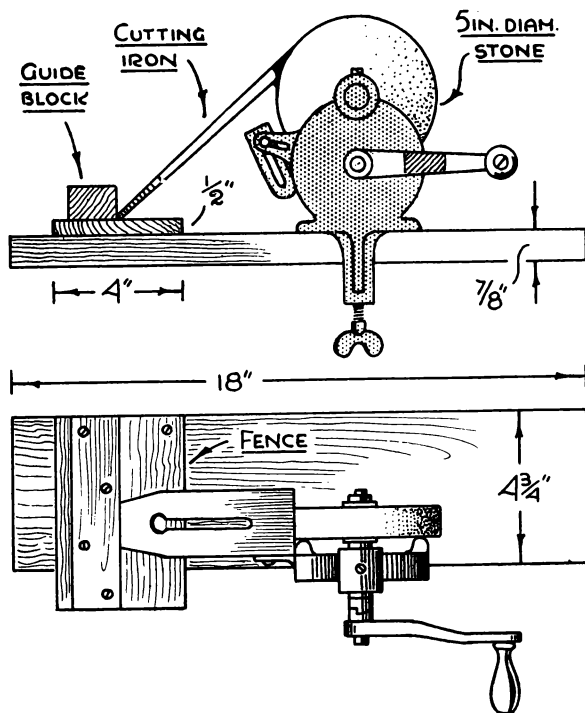
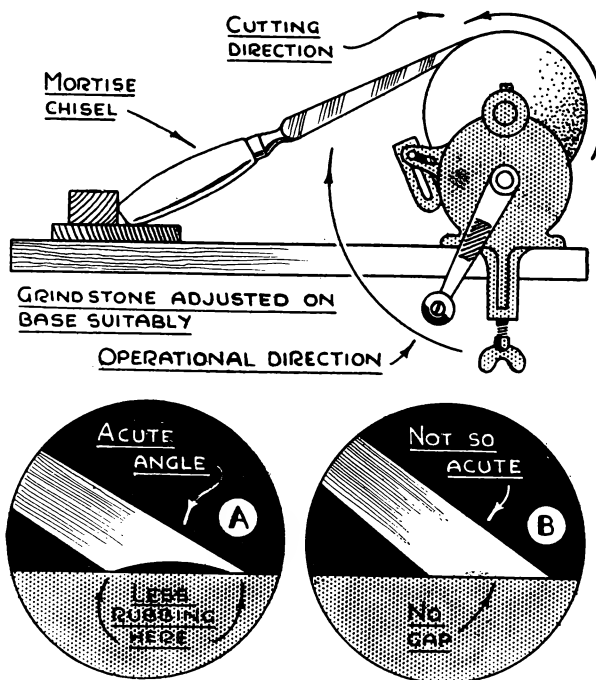
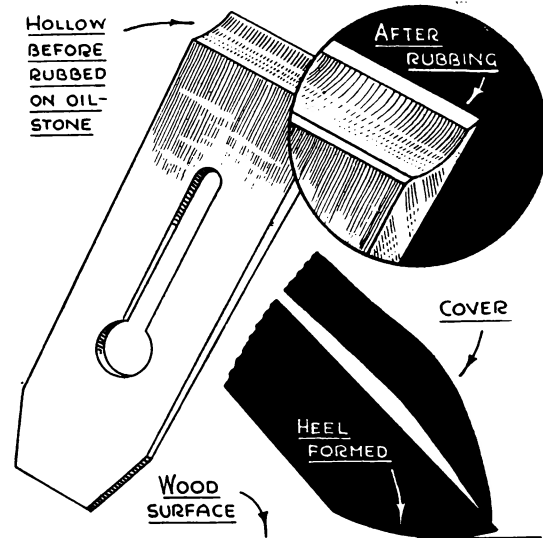

FIG. 2. ELEVATION AND PLAN SHOWING GRINDING OF A PLANE IRON.
FIG. 3. MORTISE CHISEL BEING GROUND.
FIG. 4. HOLLOW-GROUND PLANE IRON. The result of dubbing over the edge when sharpening on the oilstone is shown below. Note the heel formed.
A Tool Fence.—To facilitate grinding, i.e. to operate the grindstone unaided and obtain a neat, straight, hollow-ground bevel a tool fence should be made, the whole arrangement being illustrated in Fig. 1. To make the fence, a piece of $\frac{3}{4}$ in. flooring 18 ins. long by $4\frac{3}{4}$ ins. wide provides the base. A small fence, rather like a bench-hook, is arranged at one end as in Fig. 2. It is a permanent fixture, for the grindstone itself is adjustable along the front edge of the base.
A Smoothing Plane Cutter.—A 7 in. long smoothing plane cutter is shown in the side elevation in Fig. 2, and the amount of tilt can be noted. For tools of greater length, such as mortise chisels, the grindstone is shifted farther away, as in Fig. 3.
Hollow Grinding Features.—The difference between a hollow-ground bevel and a flat bevel are shown at A and B, Fig. 3. When rubbing on the oilstone there is much less metal to be removed in the sharpening of the hollow-ground cutter and consequently less labour is involved. The drawing of a hollow-ground smoothing plane iron at Fig. 4 shows up the advantages of the feature. Regarding chisels, such a bevel enables the cutting edge to slice its way deeply into the wood.
For the axle you might use a length of 1 $\frac{1}{2}$ in. gas barrel into which the spindles could be welded and the wheels adjusted with milled washers both sides and finally nutted. If the washers are tapped also you will get the holding of a lock-nut on the outsides, Fig. 3. A length of 2 by $\frac{3}{4}$ in. batten should be provided under the bottom of the body, and the length of barrel holed at a suitable distance from each wheel for bolts to pass as in C, Fig. 2. Your best result would, of course, be obtained by the use of an axle of the type Fig. 4 (one half shown), the spindles being fitted to the upturned extremities—which are braced in the angles—and the carrier-body mounted upon a pair of cradle springs similarly to Fig. 5 and bolted in position to the axle. The iron leg should finish a trifle clear of the ground, so that it does not drag. It requires secure bolting to the bottom. The exact position of fitting the wheels should have some relation to your method of loading. If the body is made longer than the suggested dimensions the position of the leg is also at your discretion. (363)